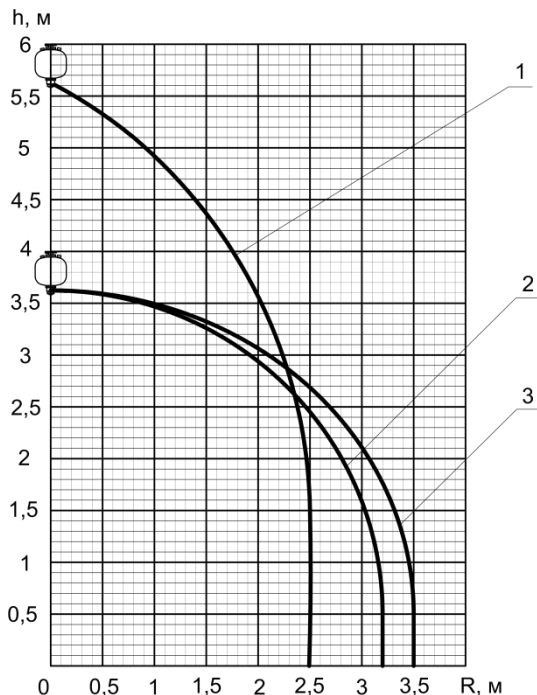

Fig.3 Discharge Patterns
11. Protected are during extinguishment	Fig.3, Table 2
2.2. Extinguishment areas by “Buran-15TRV” for fires of classes A and B is determined by a discharged pattern versus module’s installation height as shown in Fig.3.